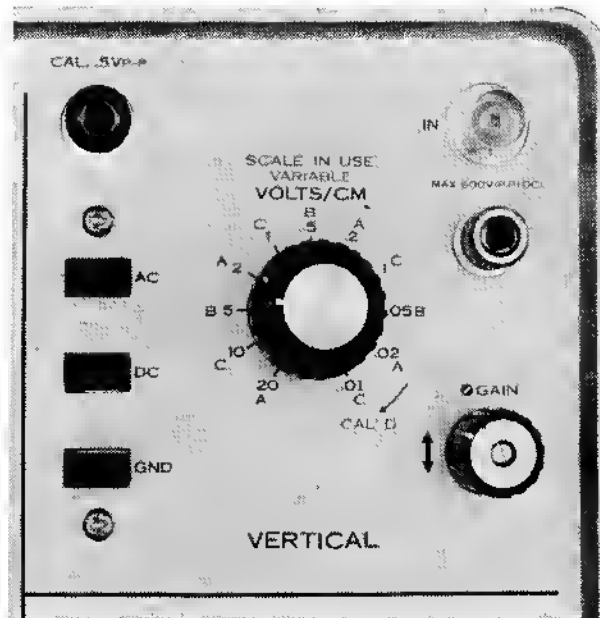
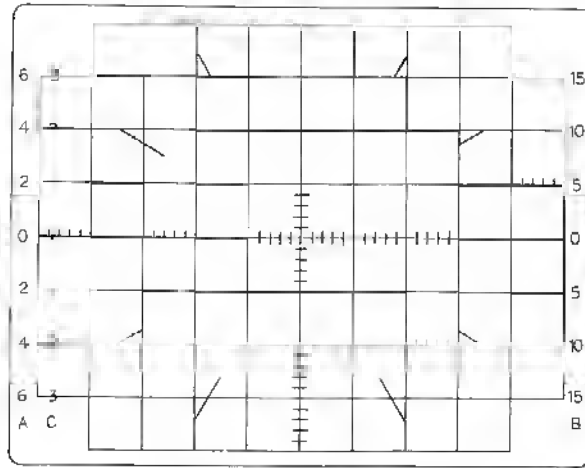

Fig. 4-10
Fig. 4-11
It will be noted that markings, A, B, and C, on the switch at different ranges correspond with the scale graduations on the graticule, see Fig. 4-10 and Fig. 4-11. When the VARIABLE (red) knob is at CAL'D, the scale in use will be illuminated. If the illumination is not required, set the RANGE ILLUM. switch, (36) on rear panel, at OFF.